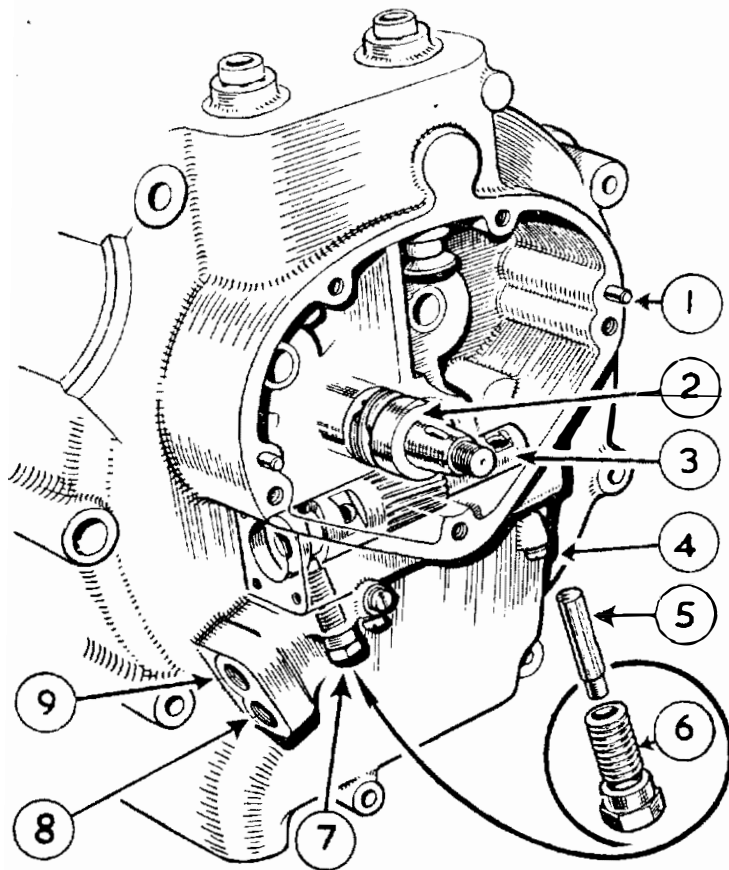

FIG 9
Removing oil pump guide pin and sleeve (6) Fig. 9.
Key to FIG 9
Remove burrs or particles of old gasket from crankcase faces. Take up the oil pump plunger, oil it and insert in crankcase. Clean the interior of screwed body (6) Fig. 9. Oil and insert guide pin (5) as illustrated, the pin should revolve freely. Fit the screwed body and pin with extreme care to ensure the guide pin is located in the annular groove in the pump plunger, using the finger to do so. It may be necessary to revolve the flywheels to locate the pin. The screwed body can be finally tightened with a spanner. *"Failure to observe these important instructions can ruin the pump gear beyond further use".* Now fit the two end caps.
**Separating the crankcase.** Before attempting to separate the crankcase, the oil pump plunger must be removed by taking off the cap at the rear end of the pump plunger housing, then remove the screwed body (No. 6, Fig. 9), and guide pin (5). Insert a piece of stout wire or wheel spoke in the plunger hole and pull out the pump plunger.